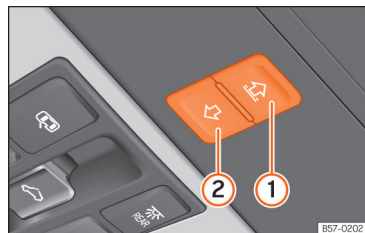

Fig. 68 On the interior roof lining: function button to operate the sun blind.
- If it still cannot be closed, within 5 seconds press the button ›› › Fig. 68 ② until the blind closes fully. **The blind closes without the intervention of the anti-trap function!**